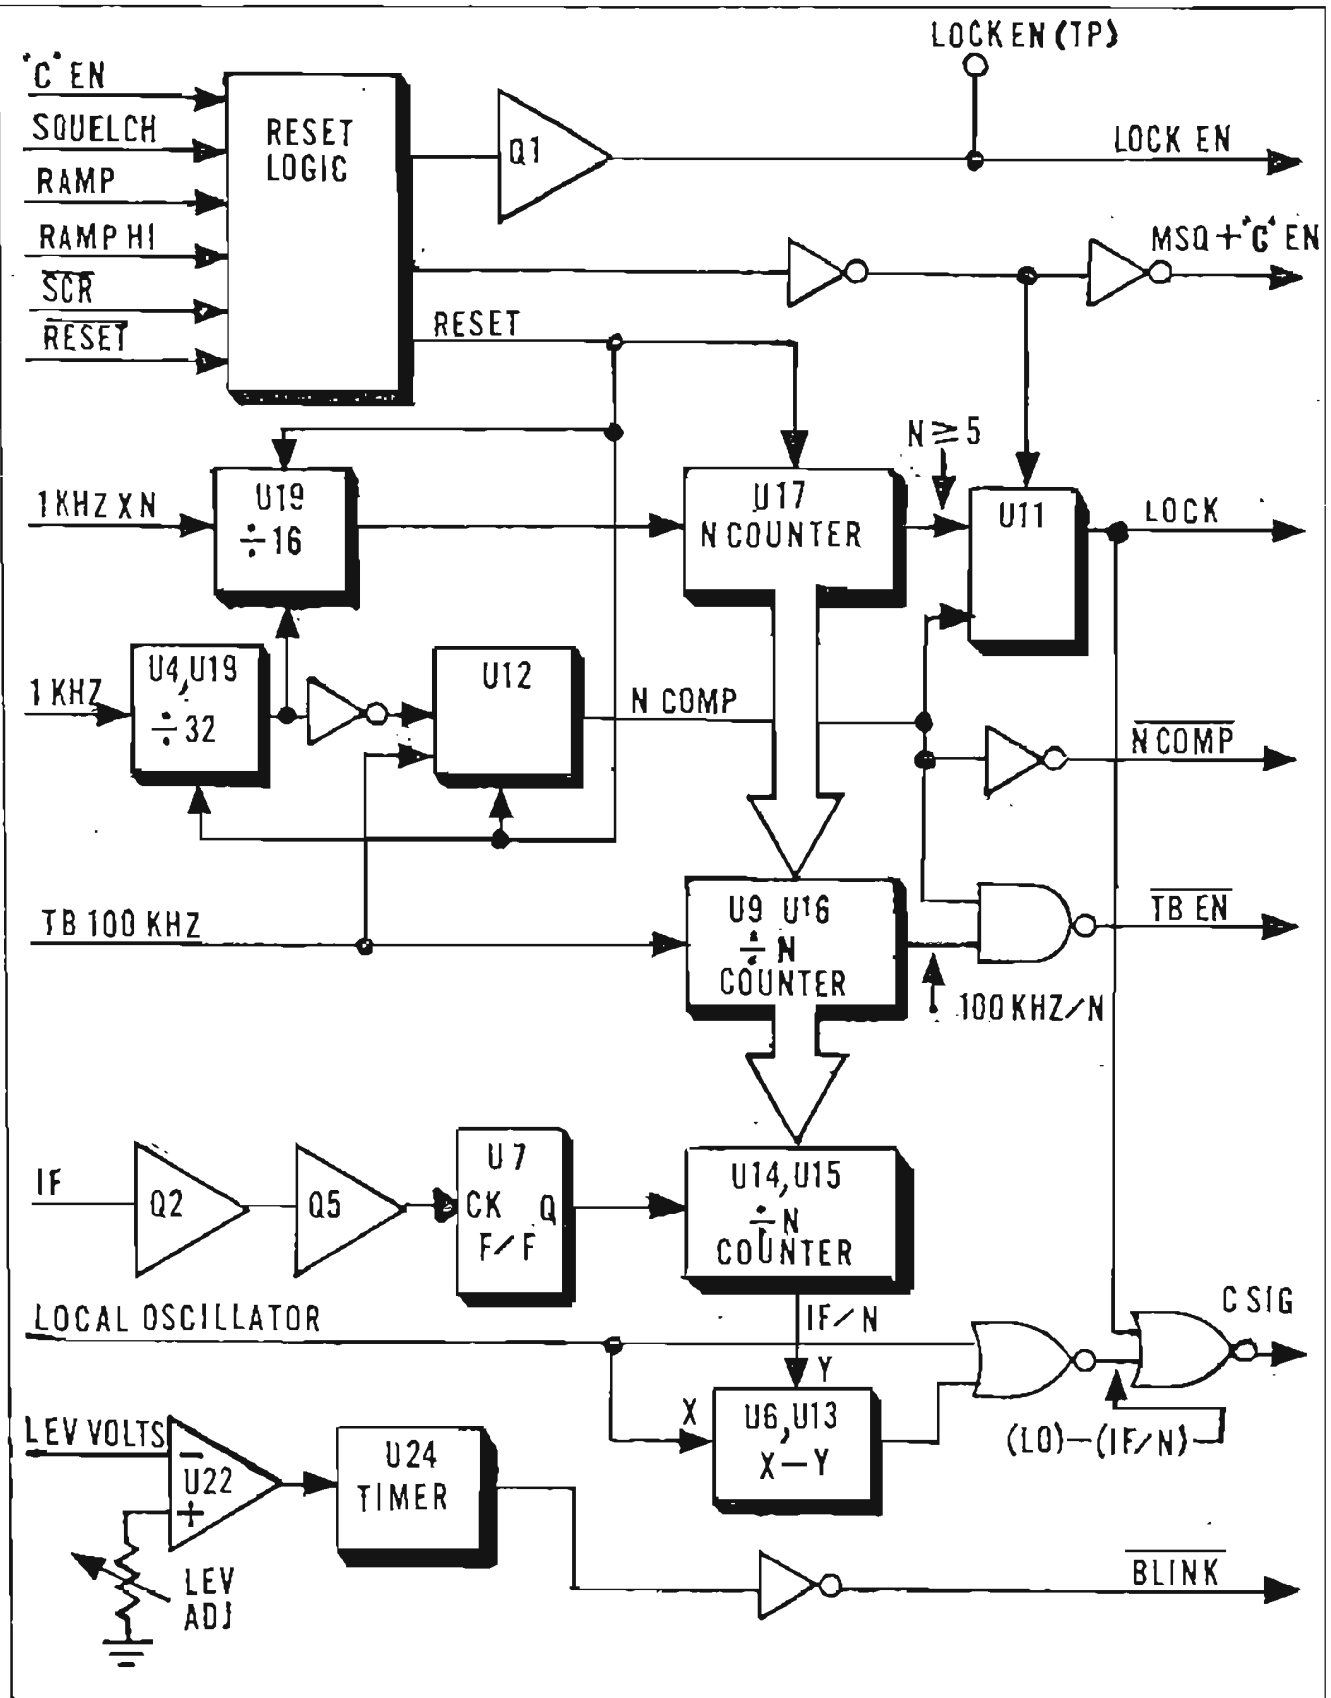

Figure 4-10. FLACTO Logic (A10) Block Diagram
4-111. Refer to Figure 4-10 and Schematic 06759901 for the following discussion. FLACTO Logic Assembly A10 computes the local oscillator harmonic (N) being mixed with the C INPUT signal. Once N is computed, it is used to extend the gate time and scale the IF input, such that the C SIG output of A10 is an exact sub-multiple of C INPUT.